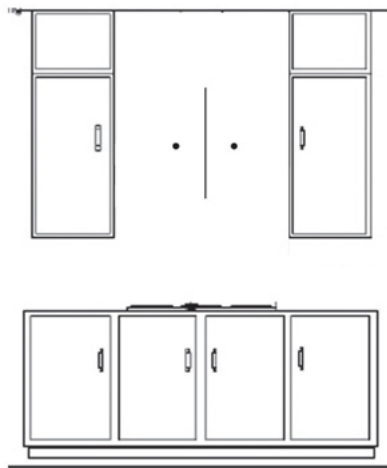

Figure 1
1. Find the center of the wall where you are installing the hood. Make sure there is sufficient bracing, such as wooden beams, to hold the weight of the hood. Mark your center line and measure out from the center to find your two mounting points. Make sure your mounting points are level when you mark them. It is recommended to install the hood directly into wood supports. *Figure 1*
2. Mark the mounting points and install the two mounting screws provided leaving the heads out ¼" to mount the hood. *Figure 1*